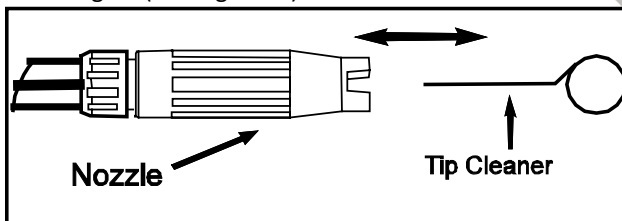

Figure 5 - Insert tip cleaner in nozzle hole and move it back and forth until debris is dislodged
- Using included tip cleaner, or an unfolded paper clip, insert wire into the nozzle hole and move back and forth until debris is dislodged. (See Figure 5.)